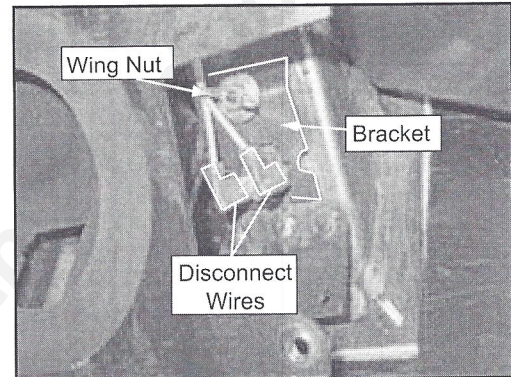

Figure 7
16. Disconnect wires from snap disc #2. **Figures 7.**